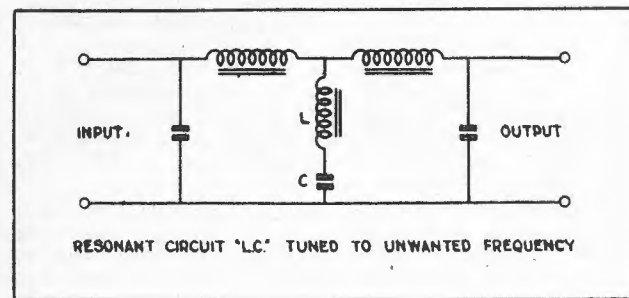

Fig. 9.
plifiers. The main frequency which requires attenuation at this point is 100 cycles. This is the pulsation which results from full-wave rectification of 50 cycles A.C., and although it is not pure A.C., is sufficiently alternating in character to be amenable to treatment by A.C. methods. The circuit of the completed filter is shown in Fig. 9. The series network, composed of "L" and "C" should resonate at 100 cycles and, if this is done the shunt impedance presented to the 100 cycles component by the series network will be equal to the D.C. resistance of the choke. In order to do this there is no necessity to effect transpositions in the resonance formulae (34) and (35). We already know that $X_L = X_C$ when resonance is reached and if a reactance chart is available it is only necessary to look up values of inductance and capacity which have corresponding reactances at 100 cycles. If these two values are connected in series, resonance will be established.
Actually, however, we are only interested in "standard" values of "L" and "C" as it is of no use contemplating the construction of a tuned filter if we have to get special inductors and condensers made up. By inspection of the chart we find that two fairly standard combinations of "L" and "C" will resonate at 100 cycles. These are 5 henries — 0.5 mfd. and 0.5 henries — 5 mfd. respectively and the lines for these respective pairs both intersect on the 100 cycle line. Either of these pairs will do the job and provide a satisfactory filter for use in the centre of fig. 9. The values used in the first pair are readily obtainable and as a 5 henry choke can be easily made with a D.C. resistance of only 20 or 30 ohms it will be seen that the filtering efficiency with this combination will be far greater than that obtainable with even a 16 mfd. condenser, of which the reactance is somewhere near 100 ohms at 100 cycles. The second pair will be even more efficient as a 0.5 henry choke could be made with a resistance of under 10 ohms. However, a 5 mfd. condenser will be difficult to obtain and would have to be made up by connecting a 4mfd. and a 1 mfd. condenser in parallel. However, the values given will be useful examples of the application of the reactance charts to such problems and will show how the resonant frequency of any series network may be determined.
Another application of this type of filter is found in the power supply units of radio receivers, and in this case, the first filter choke of a two section filter is tuned, instead of a series network being used to replace the second filter condenser, as in fig. 9.